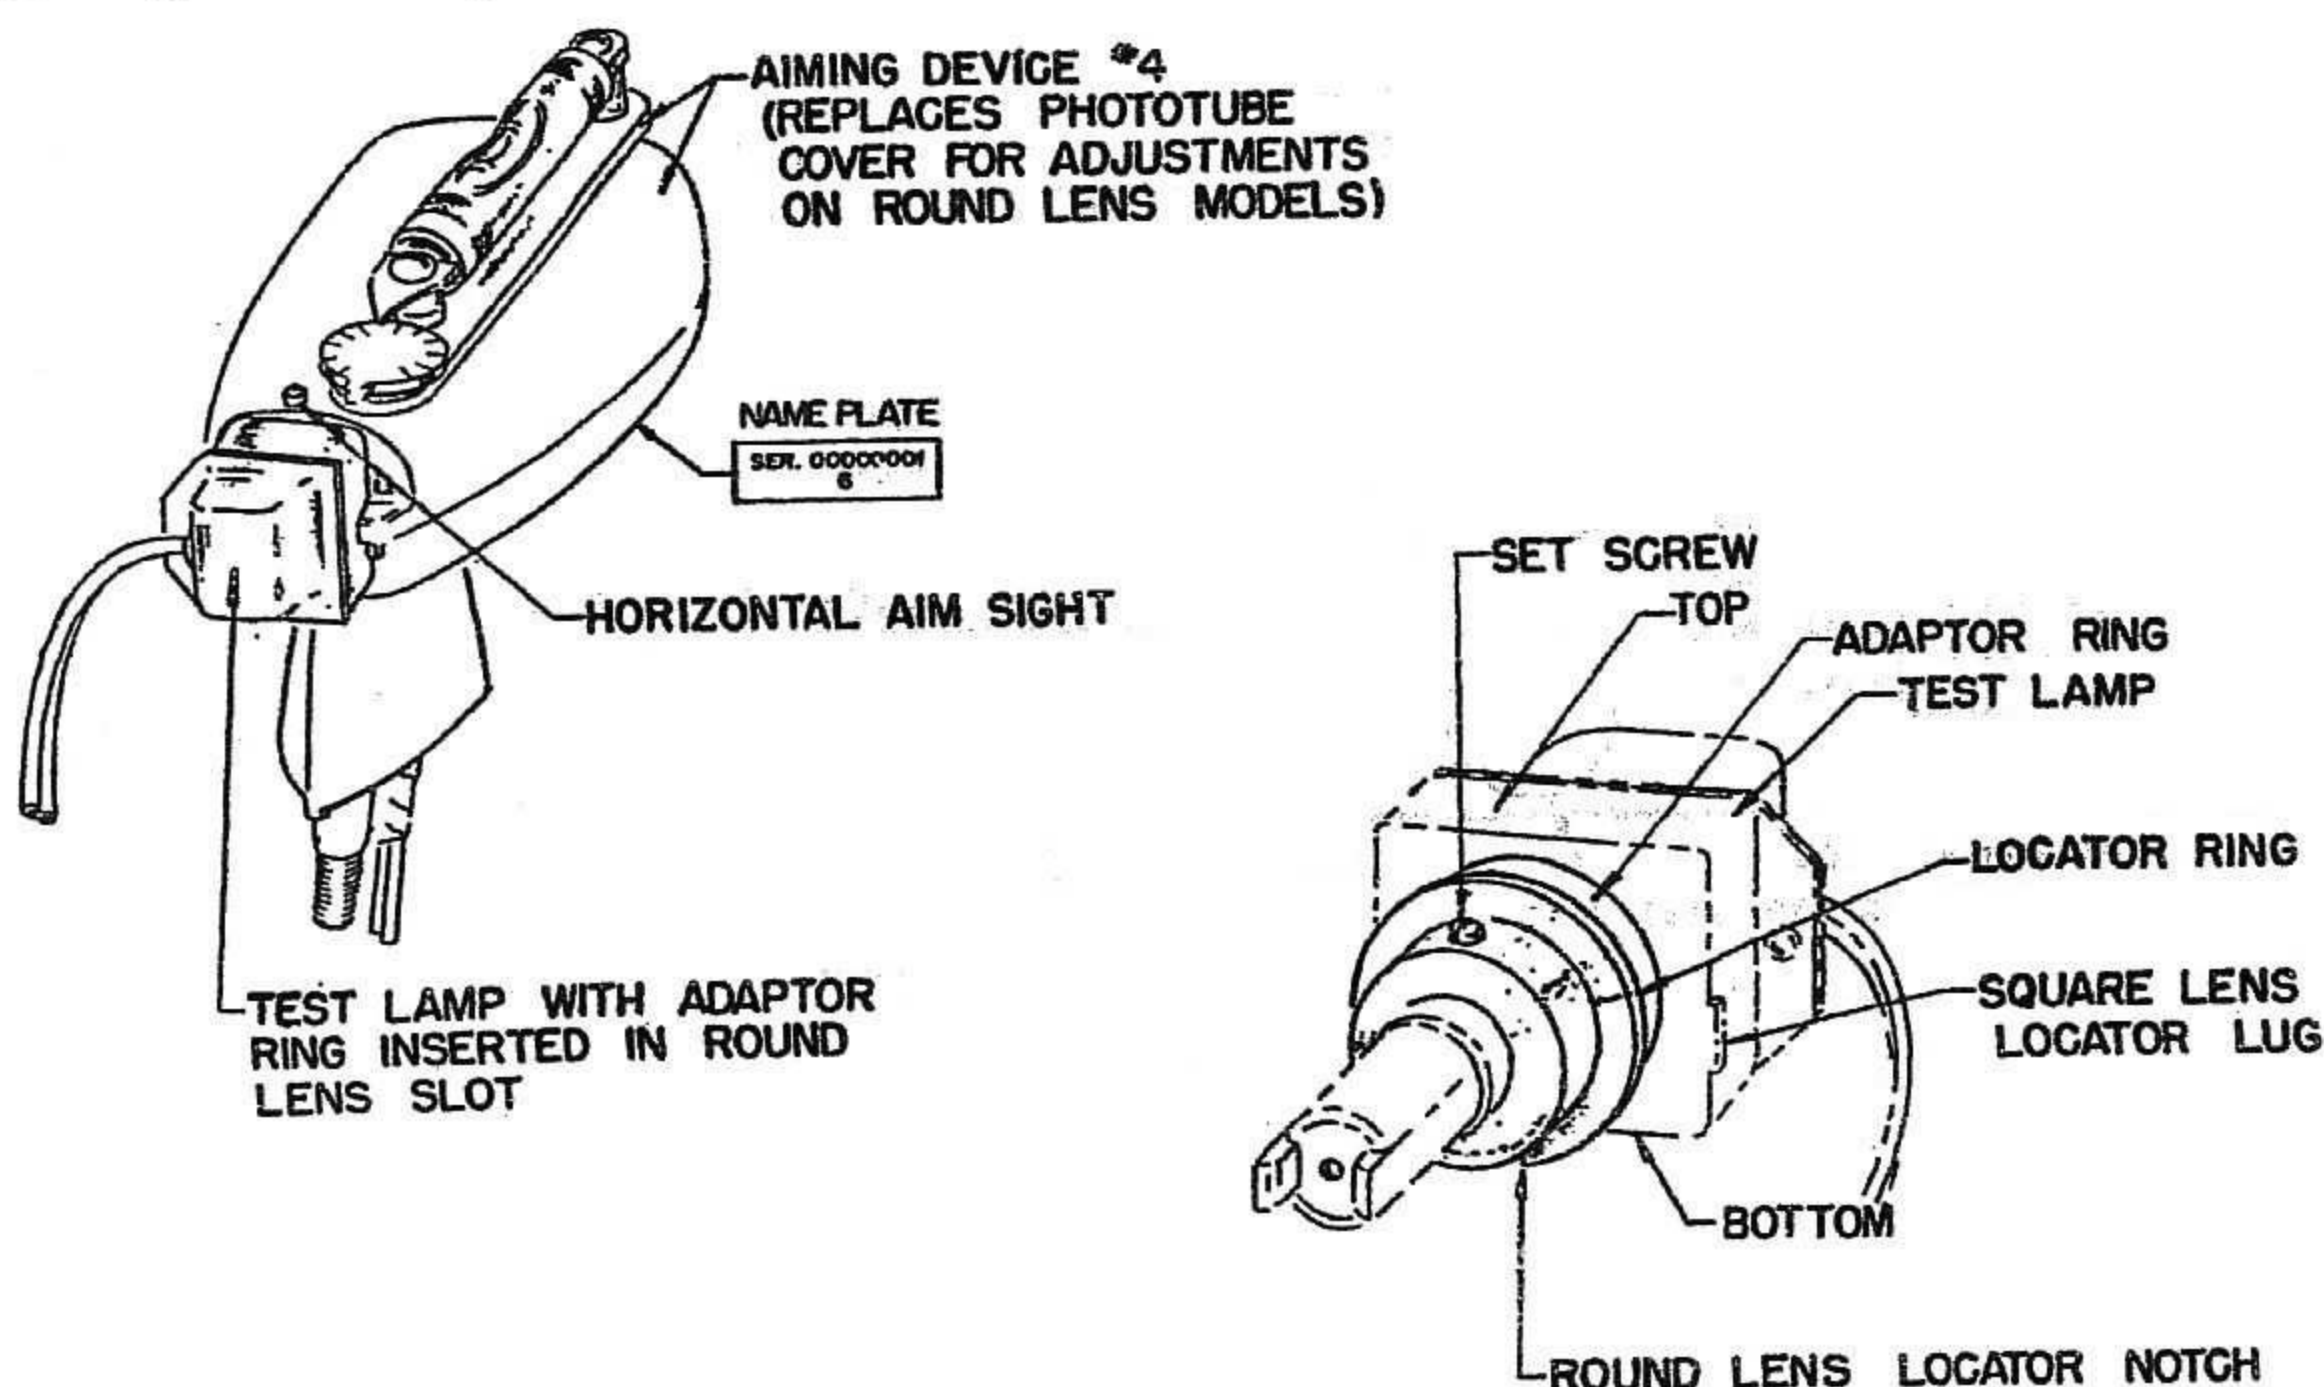

FIG. 3
As shown in Fig 3, place the widest side of the adaptor ring over the barrel of the test lamp and slide as far back as it will go against the square block of the test lamp. Rotate the ring until the center of the notch in the locating ring is in line with the center of the bottom of the test lamp. Tighten the set screw securely so the ring cannot
4. Observe number stamped on name plate on bottom side of Phototube Unit and adjust dial of Aiming Device No. 4 to this number. (See Fig. 3.)